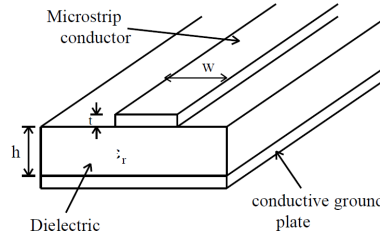

Figure 1: Microstrip line structure
**Microstrip Line:** A microstrip line is a type of transmission line consisting of a conducting strip, a dielectric substrate, and a conductive ground plane (Figure 1).